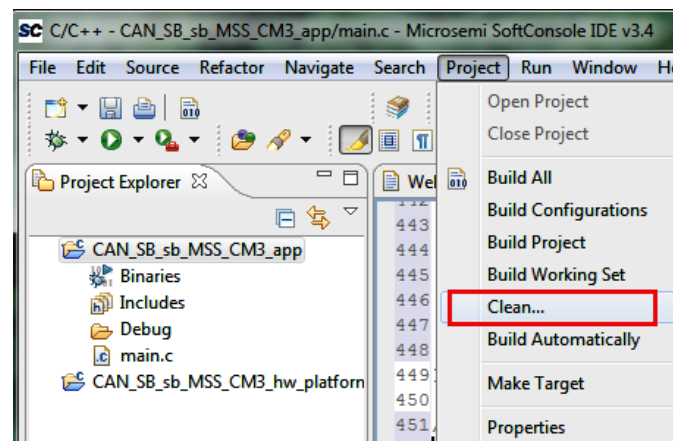

Figure 22 • Clean Project Build
13. Choose **Project > Clean** to perform a clean build as shown in Figure 22.